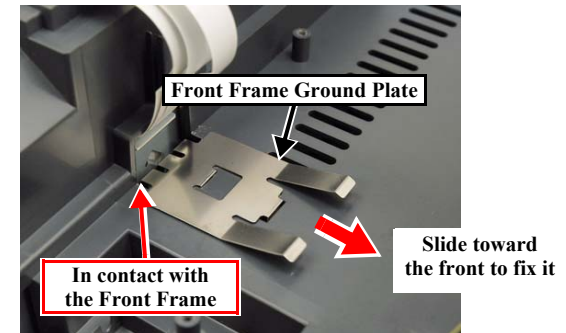

Figure 4-31. Installing the Front Frame Ground Plate
5. Install the Front Frame Ground Plate on the Middle Housing. (Fig. 4-31)